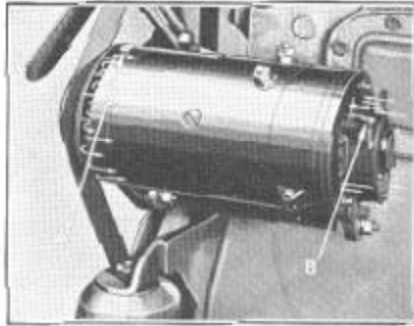

Figure 4
The front and rear bearings of the generator are also provided with oilers (A) and (B), Figure 4, and should be lubricated with engine oil every 1,000 miles. Do not over-lubricate.